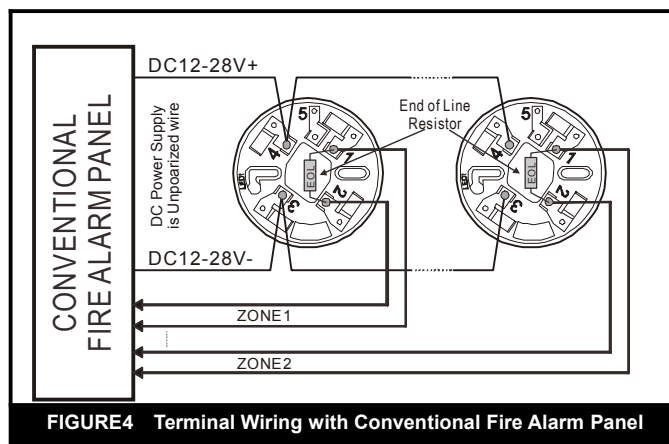

FIGURE4 Terminal Wiring with Conventional Fire Alarm Panel
connected into loop wire. See Figure 4 for wiring. The SW1-3 should set to OFF(Lock) status.
6. The detector can be connected with conventional alarm panel as Figure 4. One 4.7K ohm resistor should be connected as End of Line (EOL) resistor at the last detector.